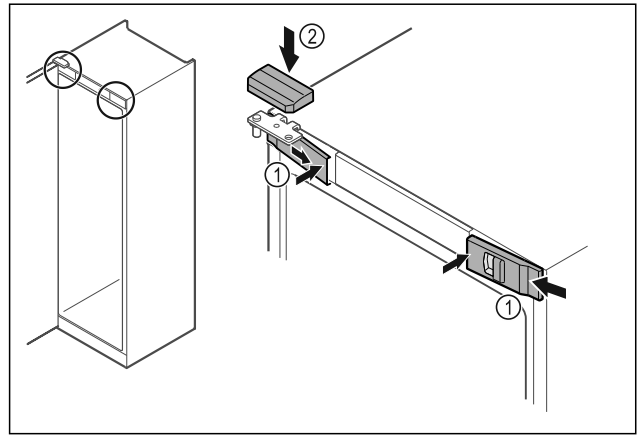

Fig. 33
- ▶ Hook in the front covers Fig. 33 (1) on the side and snap them into place on the inside.
- ▶ Snap on the top cover Fig. 33 (2) from above.